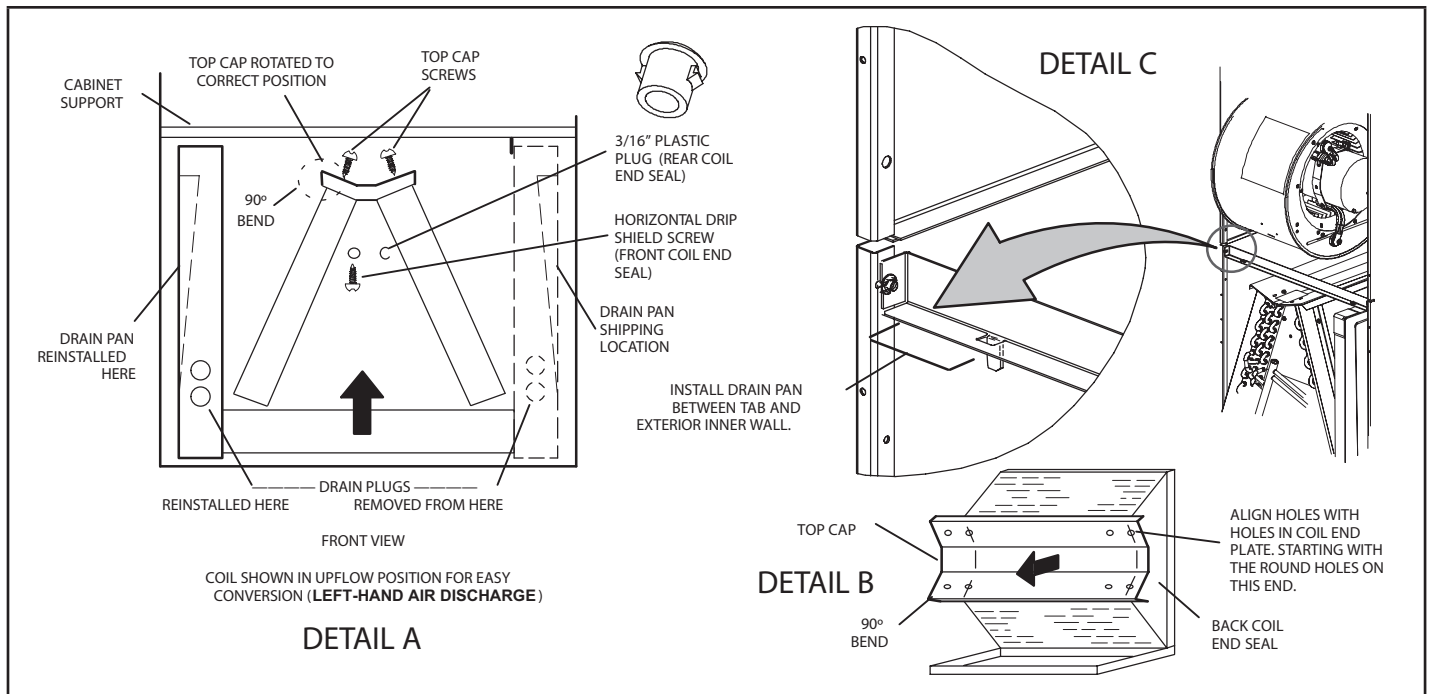

FIGURE 4. Field Modification for Left-Hand Discharge
- 4 - Remove screws from top cap. Remove horizontal drip shield screw located in the center of the back coil end seal as illustrated in figure 4 on page 5.
- 7 - From the upflow position, flip cabinet 90° to the left and set into place. Replace blower assembly. Secure coil in place by bending down the tab on the cabinet support rail as illustrated in figures 4 and 5.